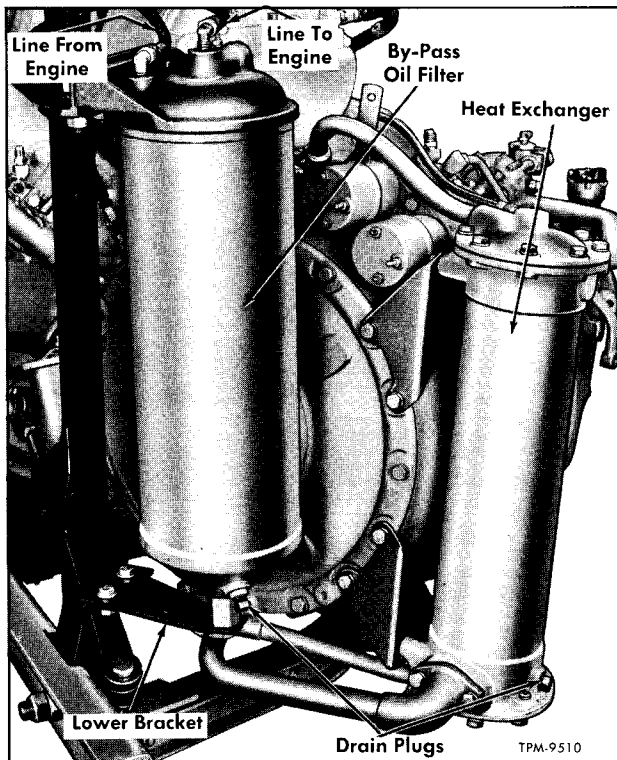

Figure 13—Engine Oil Filter and Transmission Heat Exchanger
5. Disconnect propeller shaft and transmission control as directed in respective sections of this manual. Disconnect ground strap (9).
6. Working below coach, disconnect cables (13) from starter or coach body.
7. At right-hand support hanger and engine oil filter (fig. 13), disconnect oil lines and remove filter bracket bolts. Remove filter.
10. Connect water filter lines and cooling system vent line (3).
11. Connect fuel lines (6) at junction bracket on engine.
12. Install oil filter assembly at right support hanger and connect lines (fig. 13).
14. Install air compressor discharge line (7) and compressor governor line (5).
18. Connect cables (13) at starter and connect ground strap (27).